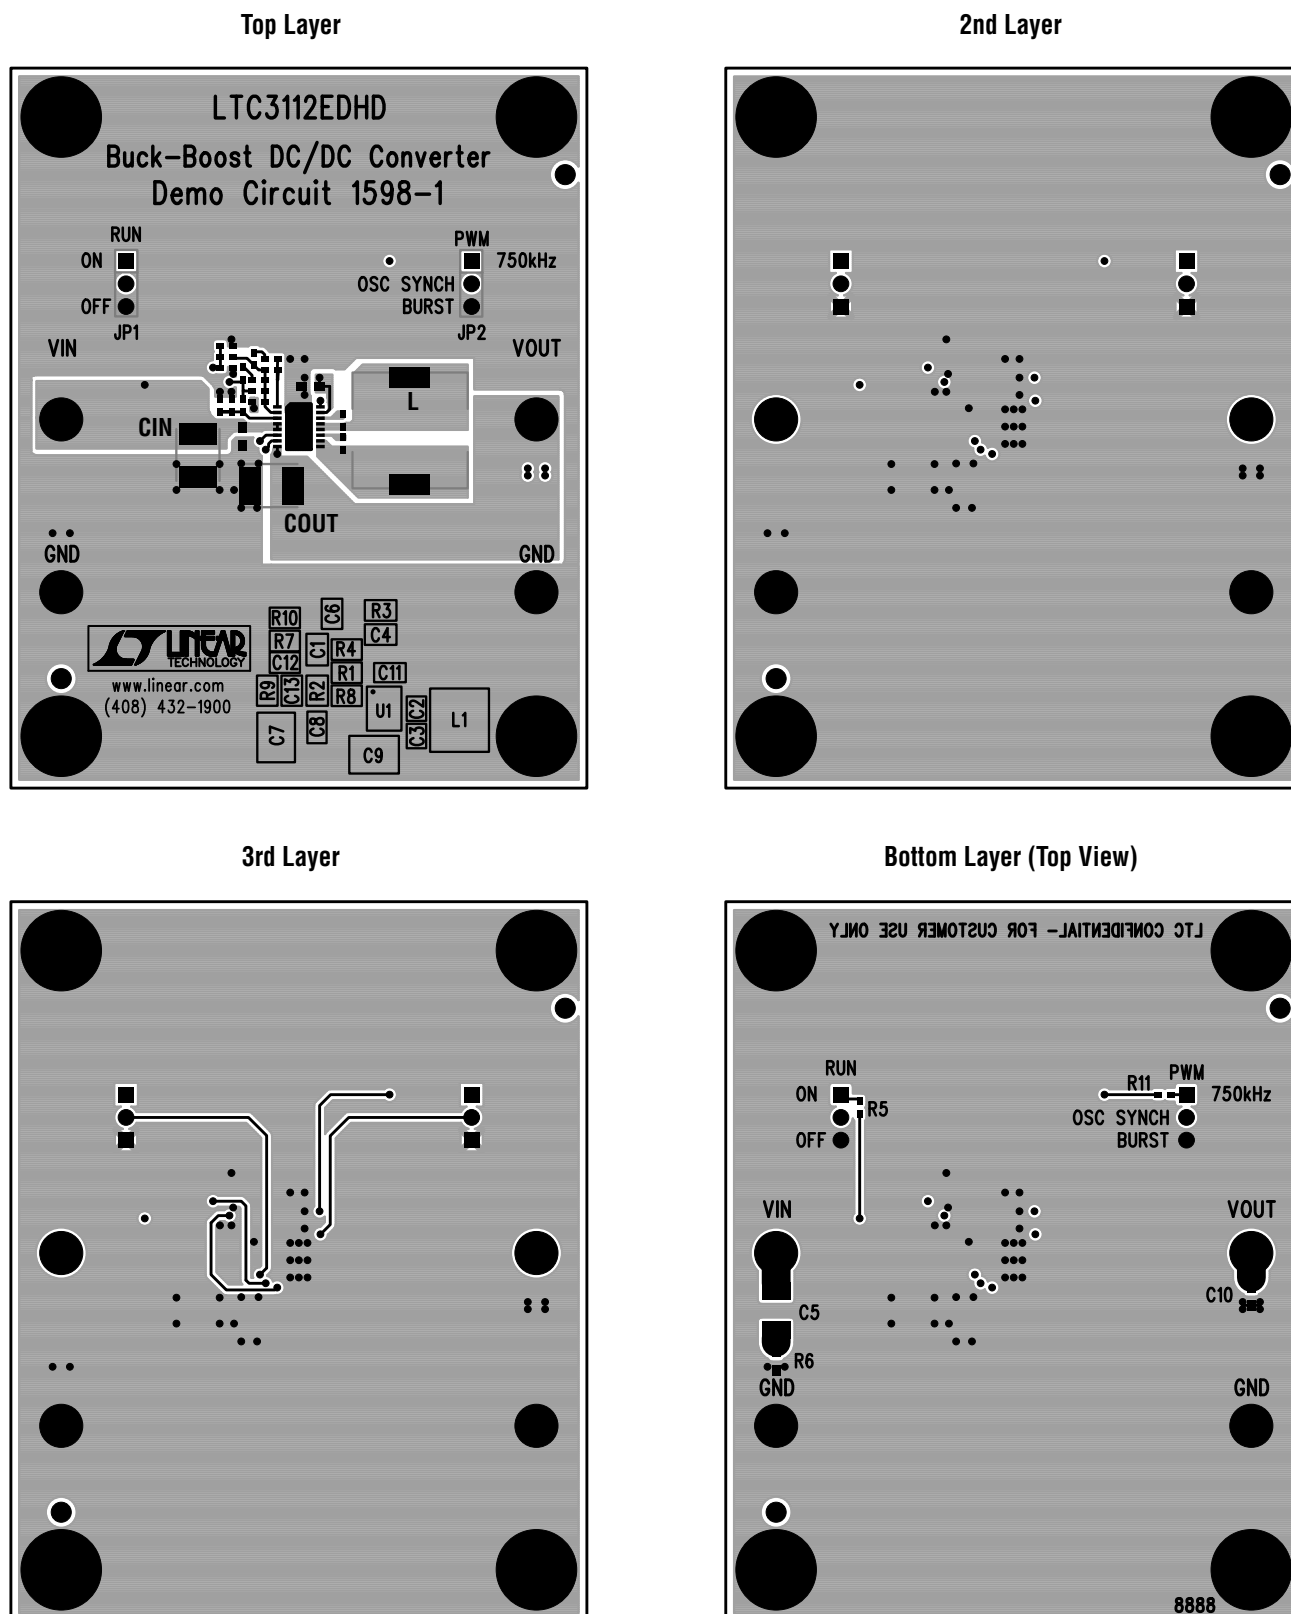

Figure 3. Example PCB Layout
The temperature rise curves given in the Typical Performance Characteristics section can be used as a general guide to predict junction temperature rise from ambient. These curves were generated by mounting the LTC3112 to the 4-layer FR4 Demo Board printed circuit board layout shown in Figure 3. The curves were taken with the board at room temperature, elevated ambient temperatures will result in greater thermal rise rates due to increased initial  $R_{DS(ON)}$  of the N-Channel MOSFETs. The die temperature of the LTC3112 should be kept below the maximum junction rating of 150°C.
The LTC3112 switches large currents at high frequencies. Special attention should be paid to the PCB layout to ensure a stable, noise-free and efficient application circuit. Figure 3 presents a representative 4-layer PCB layout to outline some of the primary considerations. A few key guidelines are outlined below:
plane should be placed directly under the  $V_{IN}$ ,  $V_{OUT}$ , SW1 and SW2 traces to provide a mirror plane to minimize noise loops from high  $dI/dt$  and  $dV/dt$  edges (see Figure 3, 2nd layer).
2. All circulating high current paths should be kept as short as possible. Capacitor ground connections should via down to the ground plane in the shortest route possible. The bypass capacitors on  $V_{IN}$  should be placed as close to the IC as possible and should have the shortest possible paths to ground (see Figure 3, top layer).
8. Crossover connections should be made on inner copper layers if available. If it is necessary to place these on the ground plane, make the trace on the ground plane as short as possible to minimize the disruption to the ground plane (see Figure 3, 3rd layer).